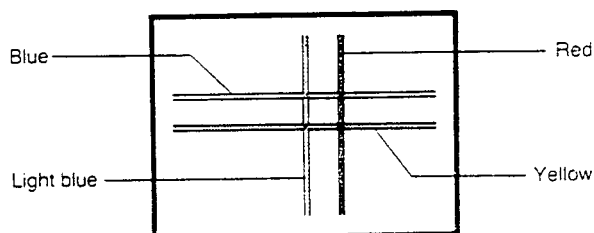

Fig. 2 Horizontal and vertical misalignment
- 4 If you see separate colored lines (Fig. 2 to 4), use the R/B, ◀, ▶, ▲, and ▼ keys on the remote control unit to make the red and blue lines disappear into the other lines. The line (red or blue) to be controlled changes alternately. Pressing the ◀ key moves the vertical line to the left, while pressing the ▶ key moves the vertical line to the right. Pressing the ▲ key moves the horizontal line upward, while pressing the ▼ key moves the horizontal line downward. In figure 2, for example, press the R/B key to control the red line, and then press the ◀ key until the red line converges. Press the R/B key again to control the blue line, and then press the ▼ key until the blue line converges. Convergence is correct when all three colors (red, green, and blue) converge, producing single white lines.